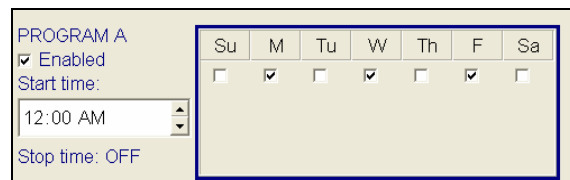

Figure 16.1.9A
- Check a box for each day of the week that you want the program to irrigate on (Figure 16.1.9A).